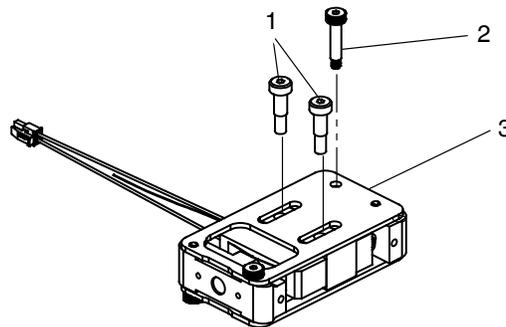

Figure 7-19 Frame Plate Assembly
9. Flip the applicator over as shown in Figure 7-19, and place back on table.
10. See Figure 7-19. Use a 3 mm hex driver and fingers to secure the two stroke adjustment screws (1) into and flush with the frame plate (3).
11. Use a 2.5 mm hex driver to secure the top shoulder screw (2) into the frame plate (3). Torque the screw to a value of 8-9 in-lb.